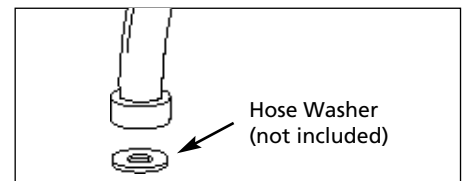

Figure 3
2. To reduce leakage between the pump and the hose, place a hose washer (not included) on the hose fitting prior to installing the hose to the pump (see Figure 3).